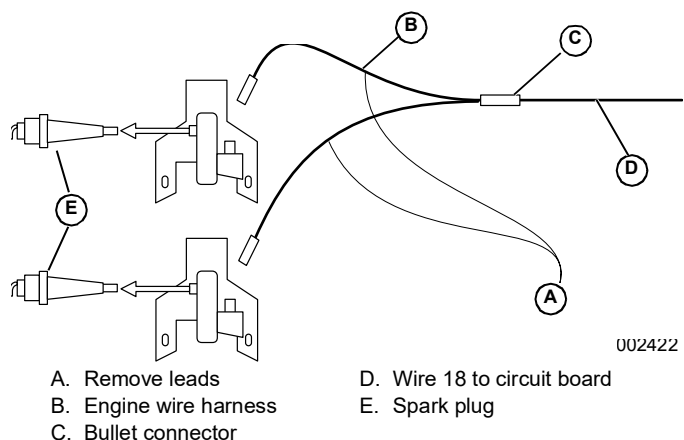

Figure 4-67. Engine Ground Harness
11. See **Figure 4-67**. Disconnect the engine wire harness from the ignition magnetos.